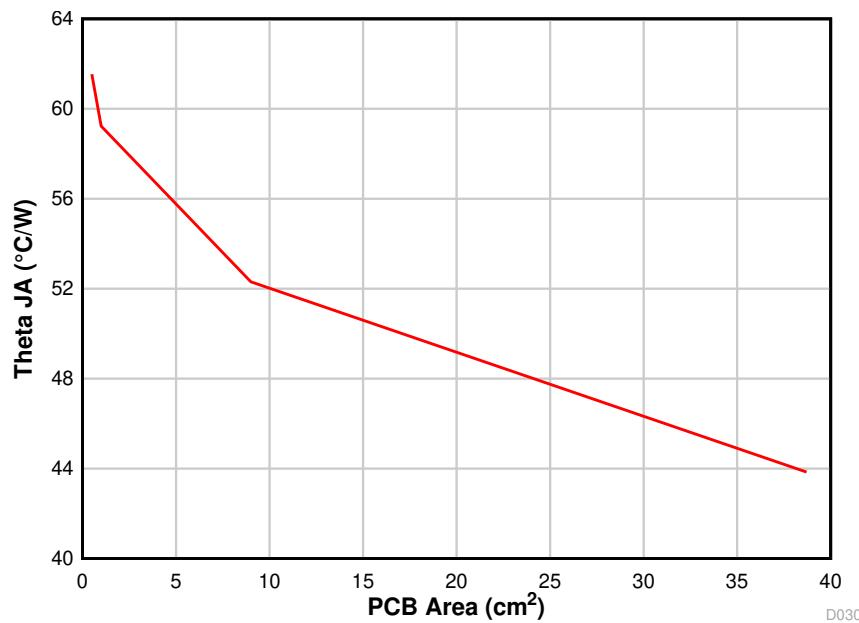

Figure 10-3. θ_{JA} versus PCB Area
The amount of PCB copper affects the thermal performance of the device. Figure 10-3 shows the effects of copper area on the junction-to-ambient thermal resistance ($R_{\theta JA}$) of the TPSM265R1. The junction-to-ambient thermal resistance is plotted for a 4-layer PCB with an area from 0.5 cm^2 to 39 cm^2 .
3. Reference Figure 10-3 to determine the minimum required PCB area for the application conditions.